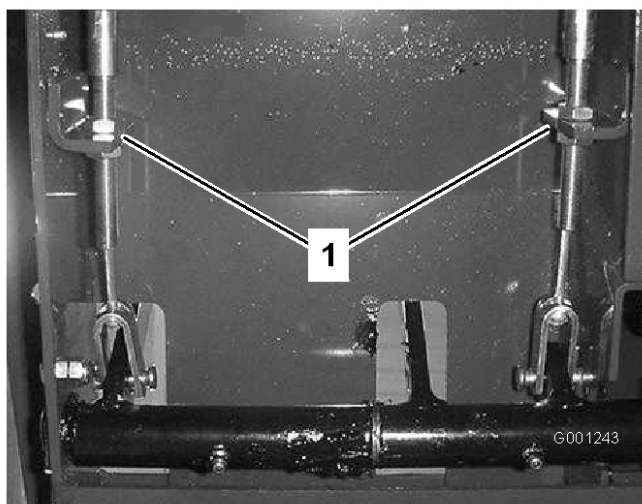

Figure 58
2. To reduce the free travel of the brake pedals, tighten the brakes by loosening the front nut on the threaded end of brake cable (Figure 58). Then tighten the rear nut to move cable backward until the brake pedals have 1/2 to 1 inch (13 mm to 25 mm) of free travel.